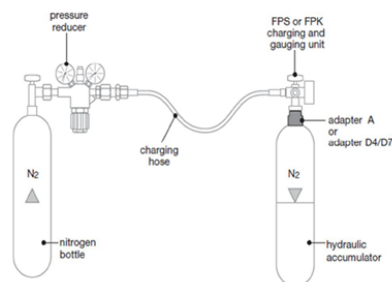

Fig.2 Connecting hydraulic accumulator and nitrogen bottle
2. Attach appropriate HYDAC charging and gauging unit (Model Code: FPK 250 F2.5 G4 K) to the accumulator by following the instructions in the HYDAC Charging and Gauging Units manual #02068202. (See fig.2) Prior to connecting the charging and gauging unit to an accumulator, close manual bleed valve by hand tightening. Connect the unit to the accumulator by screwing cap nut onto HYDAC gas valve version 1(FPK). Hand tightens.